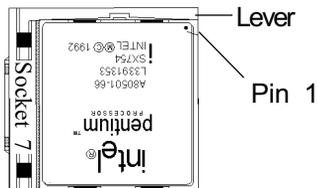

Figure 2-3 Inserting a CPU into Socket 7
2. Pull up the lever of Socket 7 so that it is perpendicular with the surface of the motherboard. Gently insert the CPU with Pin 1 at the same corner of Socket 7 that contains the end of the lever. Allow the the weight of the CPU to push itself into place. Do not apply extra pressure as doing so may result in damaging your CPU. Snap the lever back into place. See Figure 2-3.